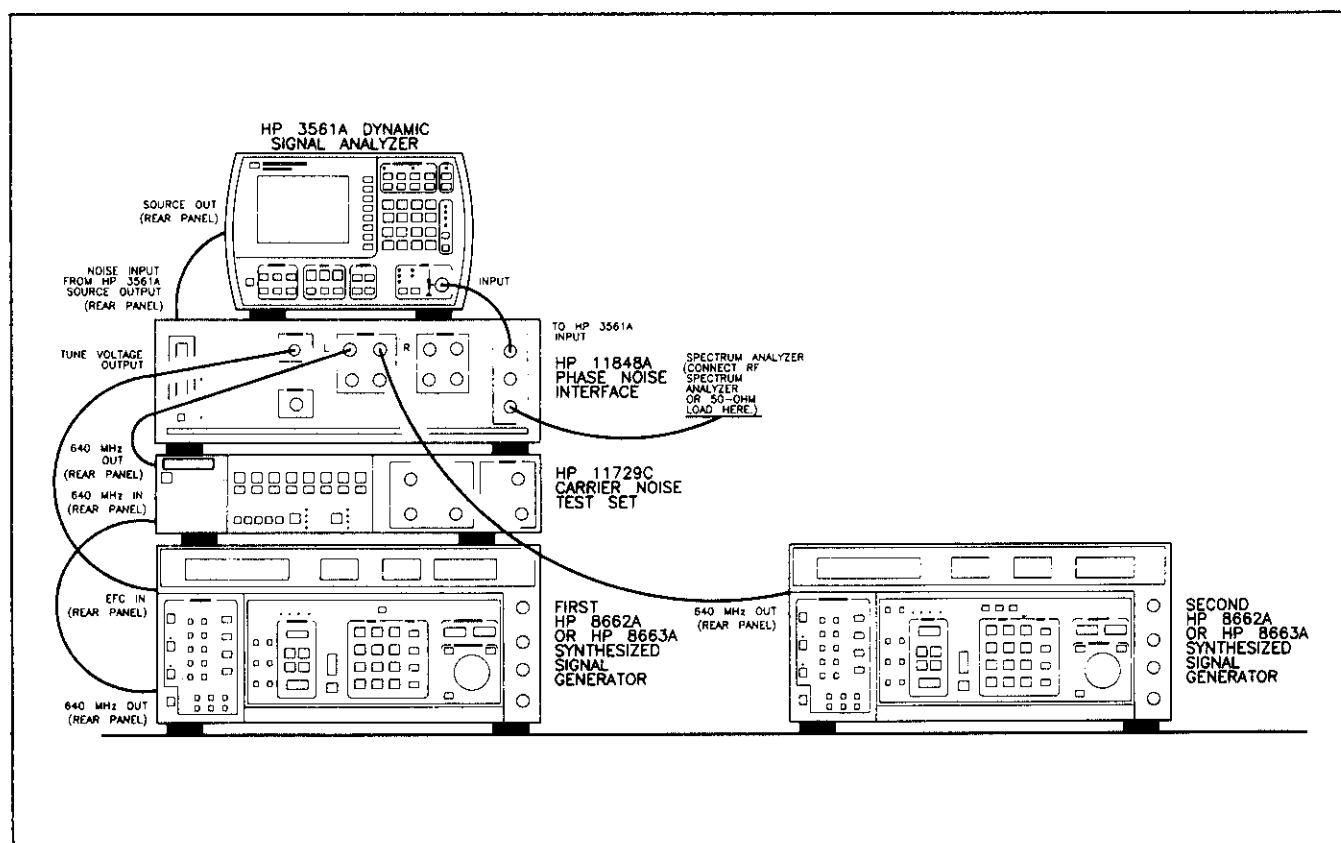

Figure B-1. HP 8662A or HP 8663A 640 MHz Spectral Purity Test
11. Connect the instruments as shown in Figure B-1.
The on-screen connection diagram, while showing the general measurement technique, is incomplete. Also note that neither of the HP 8662As or HP 8663As in Figure B-1 are under HP-IB control.